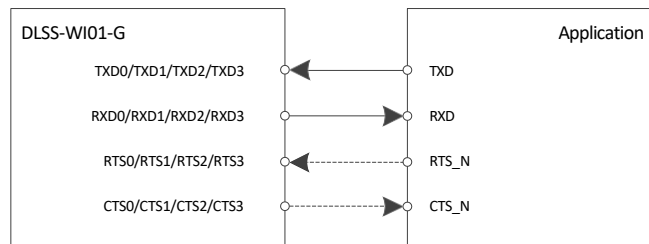

Figure 3: UART Convention and Flow Control
- CTS0, CTS1, CTS2 : Clear-To-Send signals of resp. UART0, UART1, UART2, (active low). To be connected to the CTS of the remote UART device. See Figure 3.
- RTS0, RTS1, RTS2 : Ready-To-Send signals of resp. UART0, UART1, UART2, (active low). To be connected to the RTS of the remote UART device. Tie to a 1 kΩ pull-down when flow control is not used. If connected to an external part (like a RS 232 driver), the user must insure that the part presents a low level to the DLSS-WI01-G See Figure 3.
Figure 3 represents the typical implementation for hardware flow control.